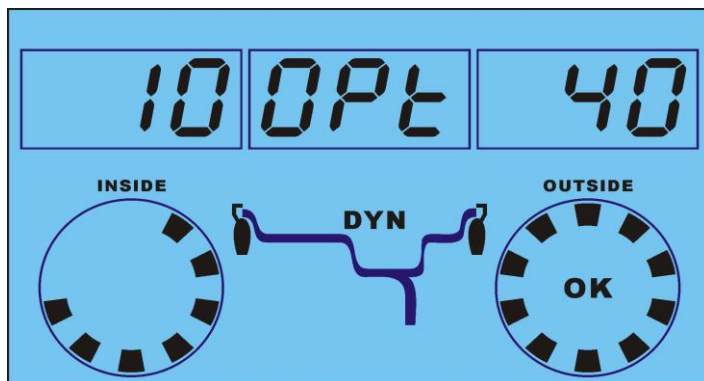

Fig. 3
4.6. Anticlockwise moving wheel slowly, the displays with right LED's lit up full indicate the correct angular position where to mount the counterweights (12 o'clock position) outside, as Fig.3.